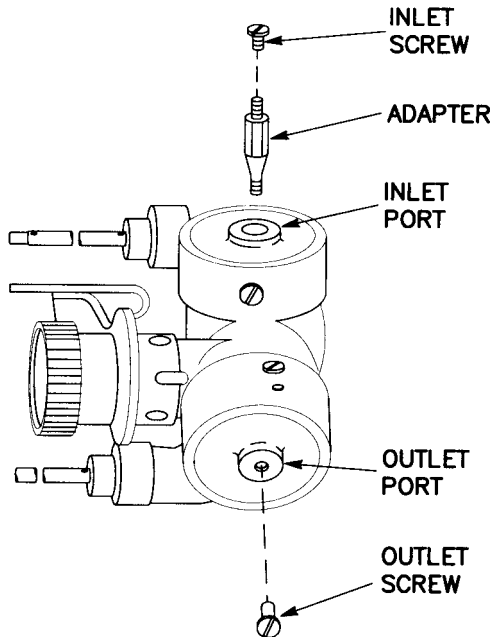

Figure 3-81 M55 Deflector Optical Assembly
- (1) If necessary, remove the barrel extension by turning it counterclockwise.
- (2) Remove the lens guard and loosen the outlet screw.
- (3) Perform purging and charging procedure para 2-5.b.
- (4) Purge instrument at 5 psig for 2 minutes.
- (5) Charge instrument at 1 psig for 1 minute.
- (6) Leak test for minimum of 5 minutes.
- (7) Tighten outlet screw and install lens guard.
b. Deflector Optical Assembly (fig. 3-81).